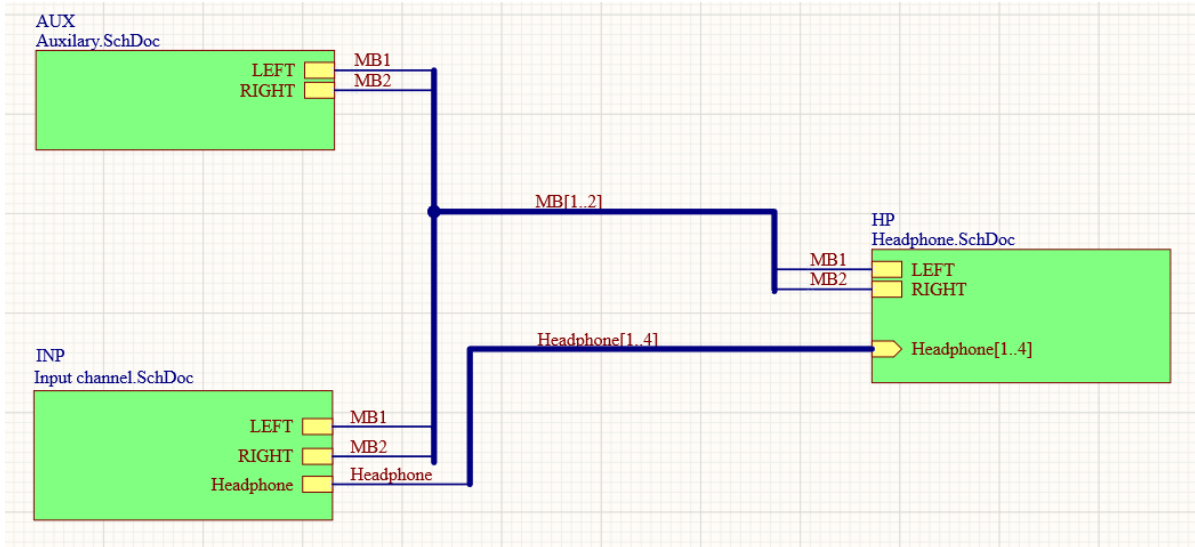

Figure 1. Single Channel design example
3. In your *Projects* panel, open `Mixer.SchDoc`. It should appear as shown in Figure 1. Note the green sheet symbol rectangle in the bottom left corner with a designator of INP. It refers to the schematic `Input channel.SchDoc`.